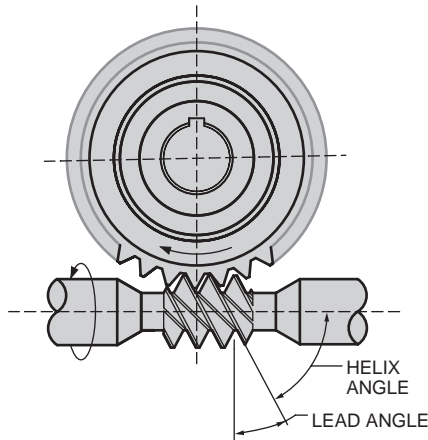
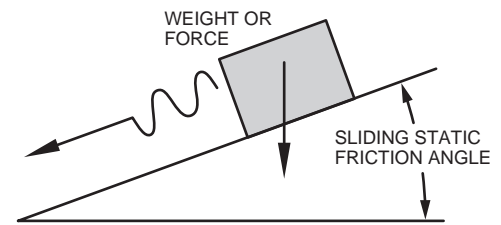

Figure 1.
Figure 2.
Statically self-locking worm gear speed reducers can be obtained when the lead angle (Figure 1 above) of the worm threads is less than the sliding static friction angle (Figure 2 above) of the worm and gear. The sliding static friction angle of any two components is the angle at which, in Figure 2 above, the stationary block just starts to slide down the ramp shown. This angle is a primary function of the materials used to make the components and any lubricant applied at the sliding surfaces. For a bronze gear and a hardened steel worm operated in a typical worm gear speed reducer, the sliding static friction angle is generally assumed to be less than around eight (8) degrees. The sliding static friction angle may be lower than eight (8) degrees due to factors such as; surface finish, type of lubricant, condition of lubrication at the surfaces, and the presence of external vibration or load pulsations. After a reducer has run-in, the gear teeth become polished and thus the coefficient of friction angle is reduced. When static self locking is desired in an application, consideration must be given to the many factors including even the normal manufacturing tolerances that create variations in the lead angle of any specific worm or gear component part number.
The sliding dynamic friction angle is the angle, in Figure 2, where even when the block is in motion it will almost cease moving down the ramp. Under dynamic or rotating conditions of a worm and gear set, the sliding dynamic friction angle of the worm and gear is dependent on all the above discussed factors plus additionally it is a function of the rotational speed and the dynamic lubrication performance. For a bronze gear and a hardened steel worm operated in a typical worm gear speed reducer, the sliding dynamic friction angle is generally assumed to be less than around